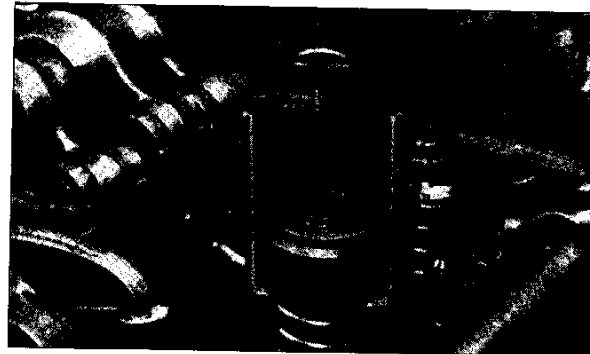

FIG. 1.6.20
3. Using the Jacobs clamping tool, back off the thumb screw. Install the tool squarely over the valve stem cap with its feet under the exposed coil of the valve spring (Fig. 1.6.20). Tighten the thumb screw to seat the cap. Remove the tool.